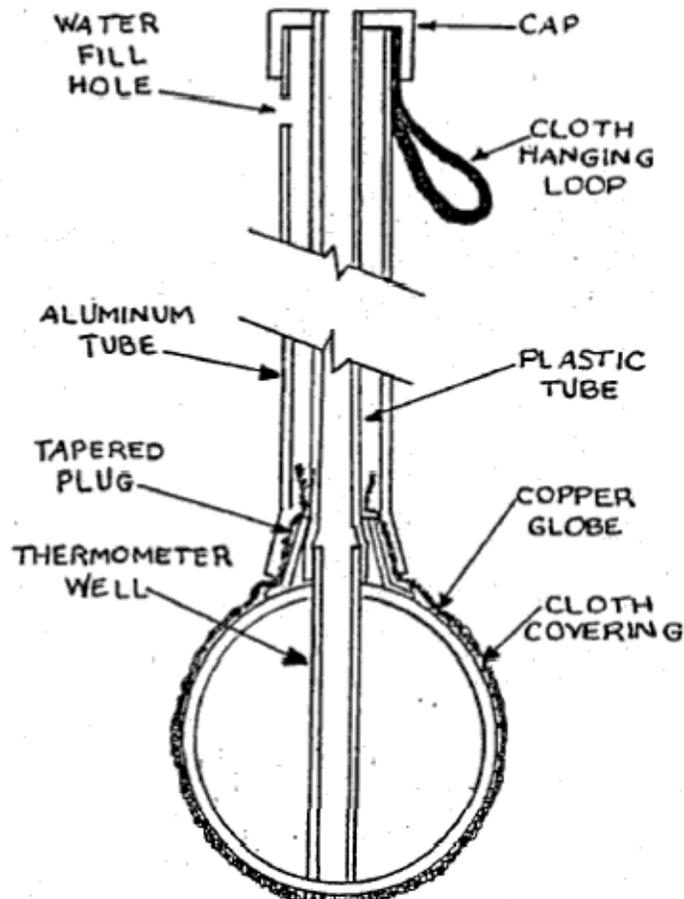

Figure 1.--Botsball Thermometer.
a. The Botsball Thermometer (NSN 6665-01-103-8547) is a device which combines the air temperature, humidity, wind, and thermal radiation into a single index indicated on a dial thermometer (see figure 1 of this enclosure). This index, however, differs in value from the Wet Bulb Globe Temperature (WBGT) Index by approximately 1.74°F. The variation in value results from the difference in the method of obtaining the wet globe temperature in the Botsball. The relationship of the WBGT Index to the Botsball temperature is expressed below: